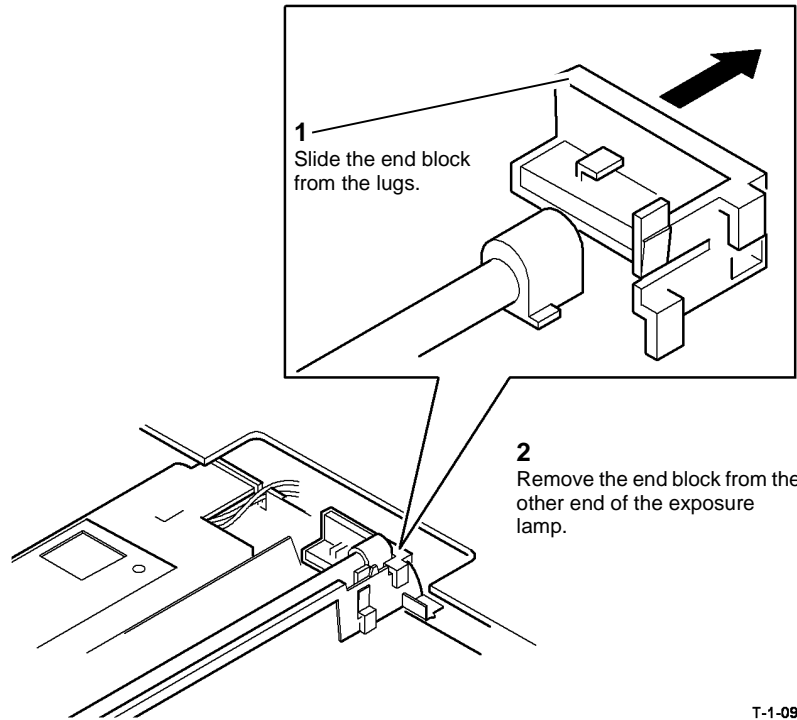

Figure 2 Removing end blocks
- Remove the end blocks from the exposure lamp, Figure 2.